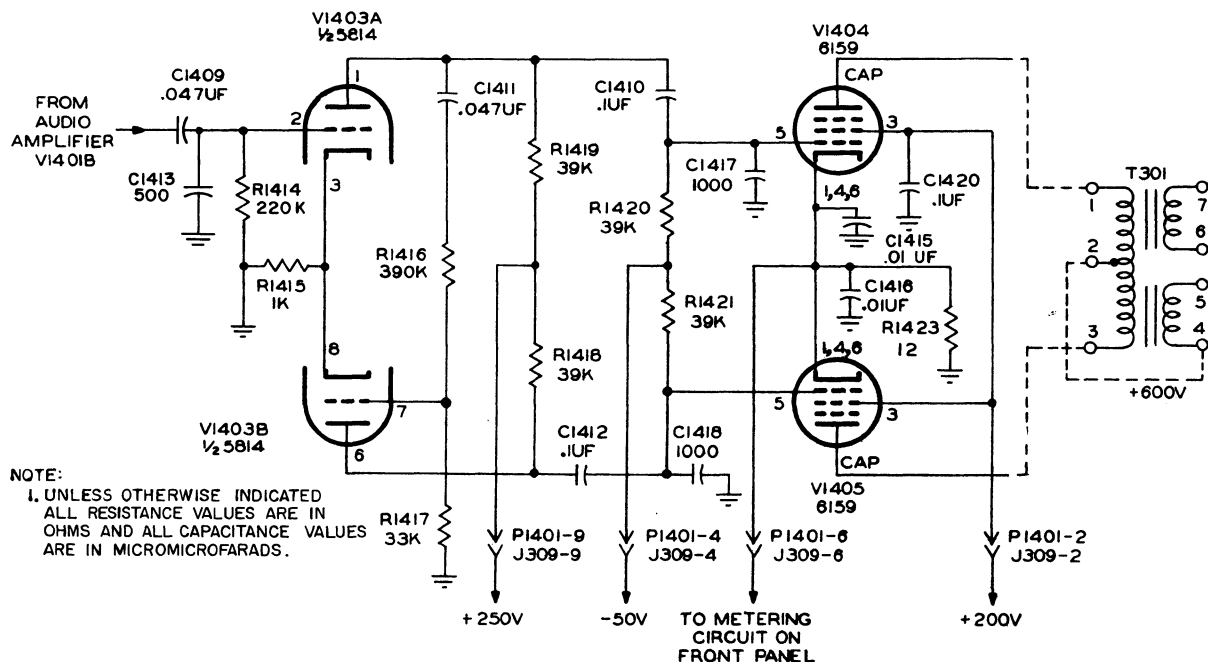

Figure 4-28. Modulator Unit, Audio Drive and Modulator, Simplified Schematic Diagram
4.9.5.4 AUDIO DRIVER. Refer to figure 4-28. The phase inverter of the driver stage uses a type 5814 duotriode. Resistor R1414 is the input grid resistor, and R1415 serves as a common cathode resistor. Plate load resistors are R1418 and R1419. The grids of the two triode sections must be 180 degrees out of phase with each other. Signal voltage at the plate of the first section is coupled through capacitor C1411 and resistor R1416 to the grid of the second. At audio frequencies, the reactance of capacitor C1411 is negligible compared to the resistance of R1416; therefore, the voltage appearing at the second grid is essentially in phase with the signal voltage at the first plate and 180 degrees out of phase with input signal voltage.
4.9.5.5 MODULATOR STAGE. Refer to figure 4-28. Capacitors C1410 and C1412 are coupling capacitors for the two 6159 modulator tubes, V1404 and V1405.